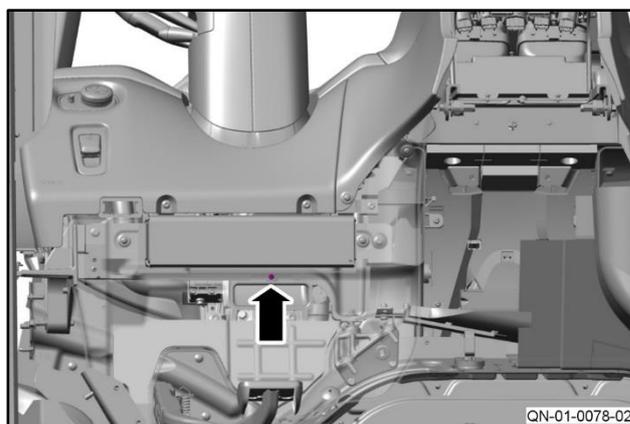

Figure 4
2. Remove the screw that attaches the lower duct to the IP (refer to Figure 4).